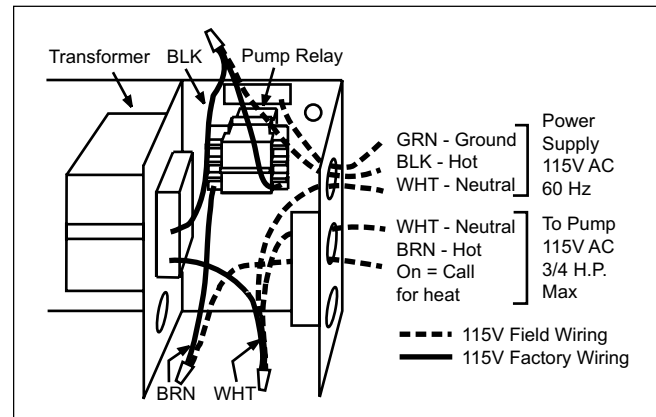

Figure 8. Field Wiring Connections.
Wiring connections must be made exactly as shown in the wiring diagram found on the inside of the control box cover (see Figure 8). The boiler must include a definite means of grounding. There is a bonding lug, where a bond wire must be attached.
2. There are four wires coiled in the area on the right side of the control box, supplied with wire nuts: 2 black wires twisted together, a white wire and a brown wire (see Figure 8).